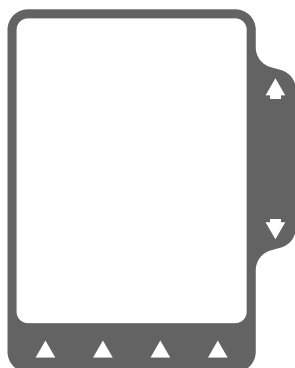

Figure 3-4 All Light Screen
- b. The entire Main Display becomes light (Figure 3-4).